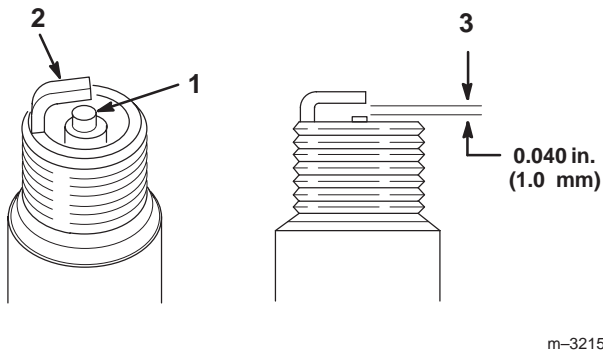

Figure 42
1. Look at the center of the spark plugs (Fig. 42). If you see light brown or gray on the insulator, the engine is operating properly. A black coating on the insulator usually means the air cleaner is dirty.
2. Check the gap between the center and side electrodes (Fig. 42). Bend the side electrode (Fig. 42) if the gap is not correct.